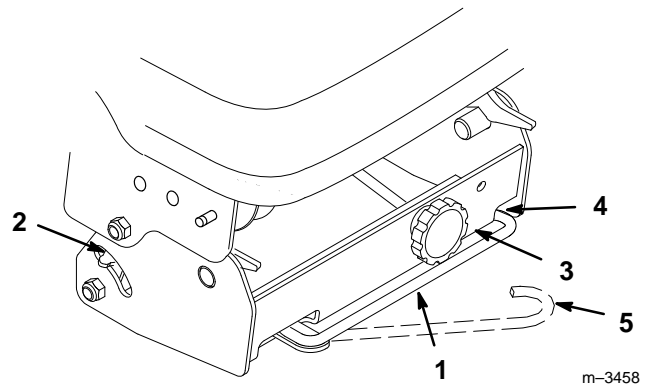

Figure 37
1. Check the tension indicators on each side of the pulley box. If the tension indicators are not in the same position on both the left and right sides, release the belt tension and turn the adjustment knob. Push the belt tension release arm back toward the pulley box to tension the belt (Fig. 37).